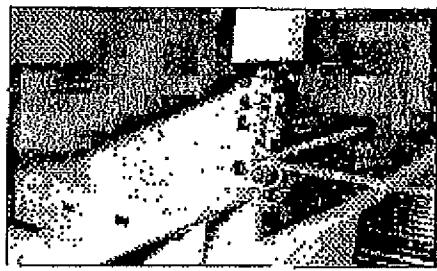

Figure 3-5.7B
Step 7. Remove the bottom half of the cell divider frame located above the breaker. This is accomplished by first removing the running screw on the left side of the cell (Figure 3-5.7L), then removing the three screws on the right side of the cell (Figure 3-5.7R) and removing the two screws attaching the cell divider frame to the pact (Figure 3-5.7B).